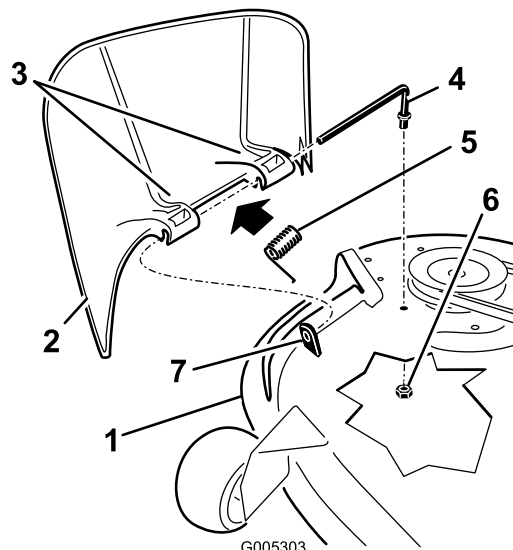

Figure 55
1. Locate items shown in Figure 55.
2. Remove the nut (3/8 inch) from the rod under the mower (Figure 55).
3. Slide the rod out of the short stand-off, spring, and grass deflector (Figure 55). Remove the damaged or worn grass deflector.
4. Replace the grass deflector (Figure 55).
6. Place the spring on the rod, with end wires down, and between the grass deflector brackets. Slide rod through second grass deflector bracket (Figure 55).
7. Insert rod at front of grass deflector into short stand-off on deck. Secure rear end of rod into the mower with a nut (3/8 inch) (Figure 55).